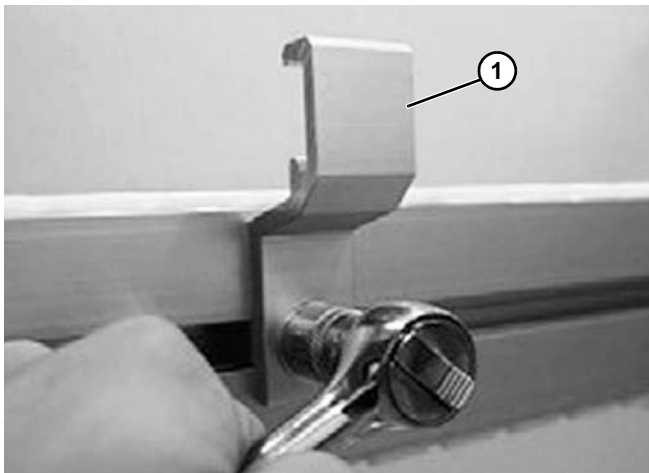

Figure 97
1. Fasten a fixed guide rail bracket support (**Figure 97, item 1**) to the conveyor beam using T-bolt.